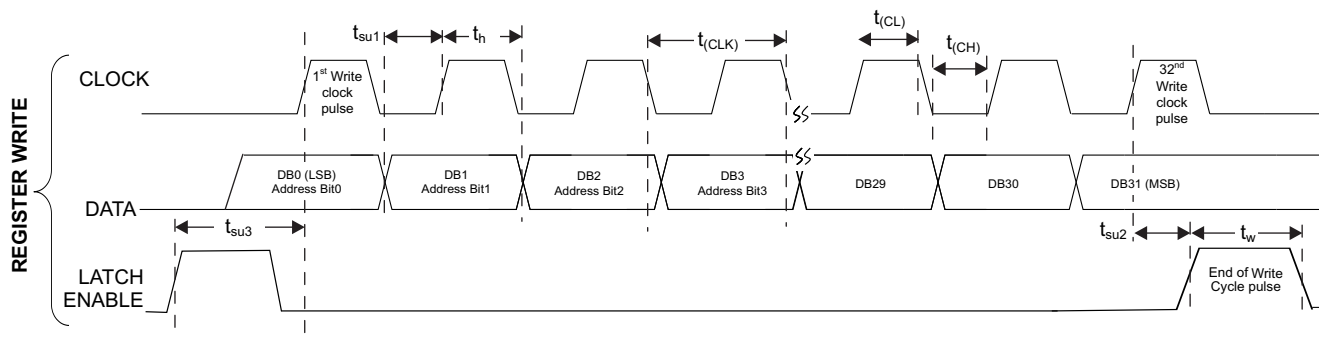

Figure 130. 4WI Writing Timing Diagram
The TRF3722 features a four-wire serial programming interface (4WI) that controls an internal 32-bit shift register with seven parallel registers. There are total of three signals that must be applied: the clock (CLK), the serial data (DATA), and the latch enable (LE). The fourth signal is the read back (RDBK) signal. The serial data (DB0-DB31) are loaded least significant bit (LSB) first, and read on the rising edge of the CLK. LE is asynchronous to the CLK signal; at its rising edge, the data in the shift register are loaded into the selected internal register. Figure 130 shows the timing diagram the 4WI. Table 1 lists the 4WI timing for the write operation.